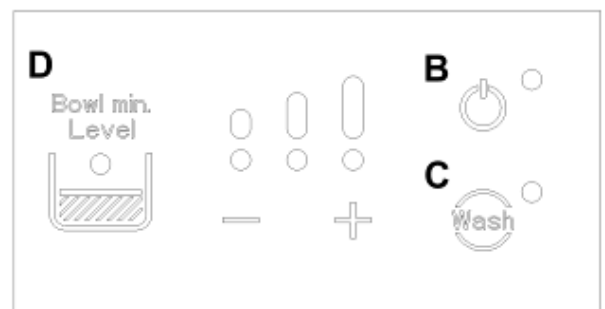

Fig. 65
- Select the desired mode of operation from the control panel (Fig. 65)
- To activate the cooling system in cooling mode push the power button B on the control panel (Fig. 65).
- To change the consistency of the mix, press the + and – keys of the control panel (Fig. 65). Pressing + will cause the number of LEDs lit to rise and consequently the consistency setting increases. Pressing – instead will decrease the number of LEDs lit and reduce the mix consistency (Fig. 65).
- To activate wash mode, push the button WASH button (button C in Fig. 65) after switching off the cooling system by pressing the power button B and making sure that its LED is off.